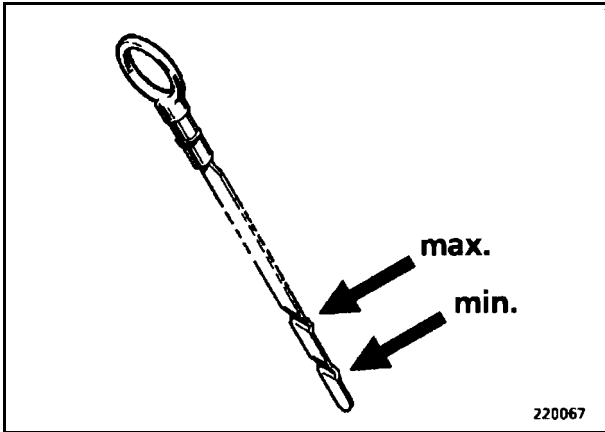
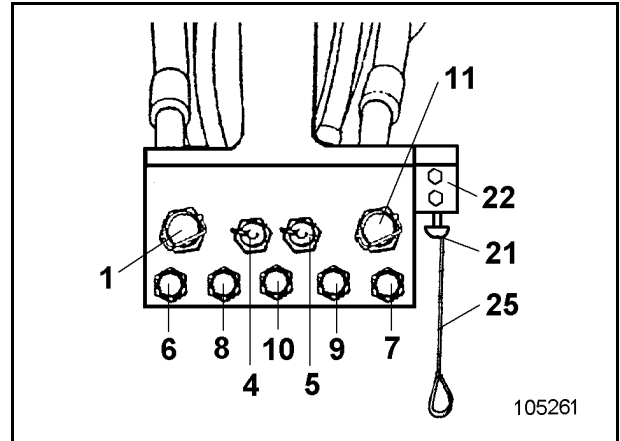

Fig. 3-12:
Fig. 3-14:
- Draw out dipstick a second time. The oil level should now lie between the marks (arrows, Fig. 3-12:). If the oil level is at the "min" mark or below, top up with engine oil through filler tube (2, Fig. 3-14:).
- Draw out dipstick a second time. The oil level should lie at the mark. If the oil level is below, the engine oil is filled in from the service station (Fig. 3-14:) through
- express coupling (6) for the lefthand engine oil reservoir
- express coupling (7) for the righthand engine oil reservoir